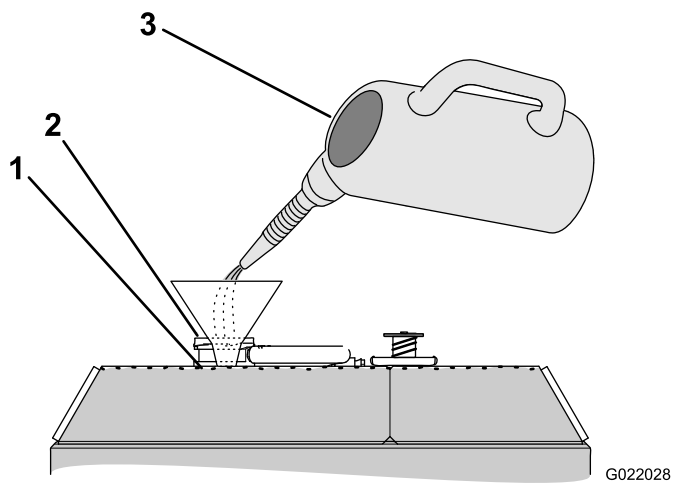

Figure 146
4. Fill the radiator with coolant until the fluid level is up to the bottom of the filler neck (Figure 146).